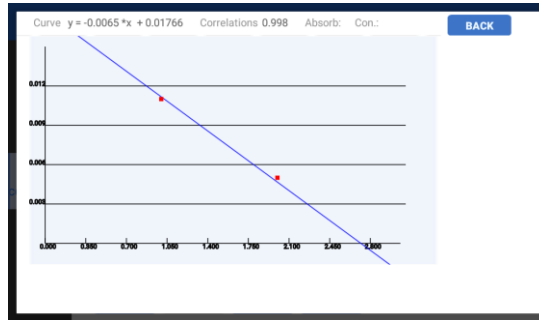

Fig 5.5 New curve
(2) Other buttons introduce
①  : click this button to display the current curve, as Fig 5.5